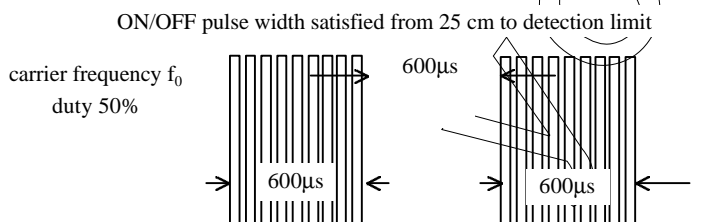

Fig 1. Burst Wave
- (1) Measuring place ... Indoor without extreme reflection of light.
- (2) Ambient light source... Detecting surface illumination shall be 200±50Lux under ordinary hite fluorescence lamp of no high frequency lighting.
- (3) Standard transmitter ... Burst wave indicated in Fig 1. of standard transmitter shall be arranged to 50mVp-p under the measuring circuit specified in Fig 2.